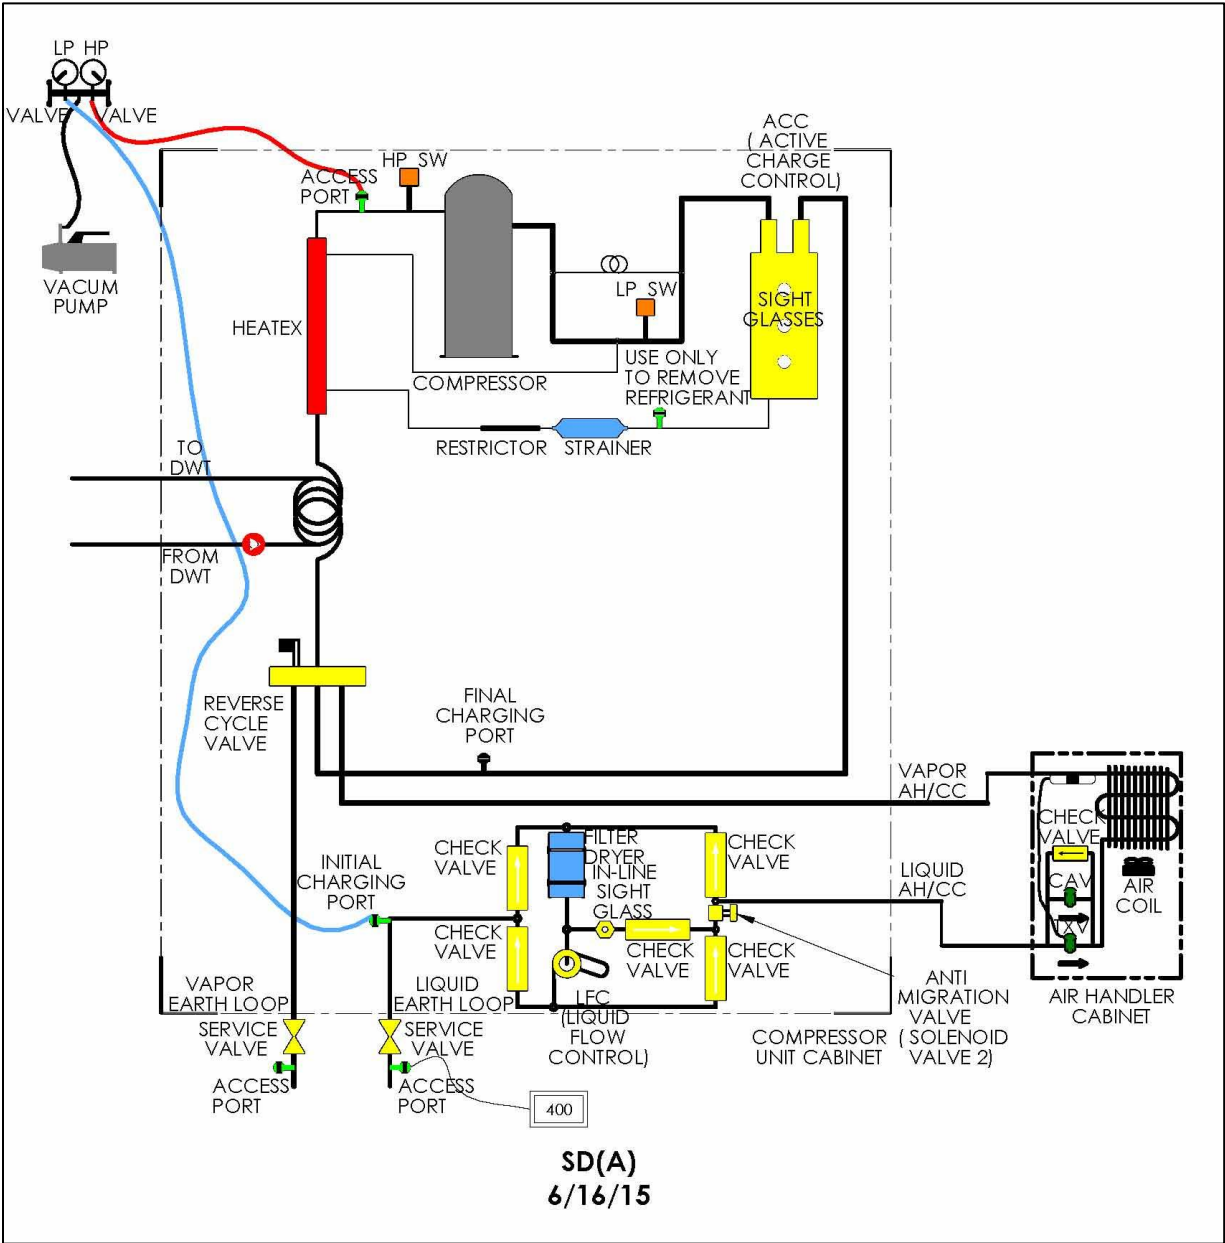

Figure 26. Evacuation of SD(A) System
Refer to Figure 26 and the following procedure:
2. After venting the pressurized system, a good quality gage manifold and a non-permeable hose set as shown in Figure 26. If possible, use two Schrader core removal tools. Install one on the discharge line access port and the other on the initial charging port. Removal of the Schrader cores will reduce the time to achieve the desired vacuum.
3. Attached a good quality digital vacuum gage with an isolation valve to the liquid line service valve access port as shown in Figure 26.
5. Fully open the LP and HP valves and both service valves. Reference Figure 26.